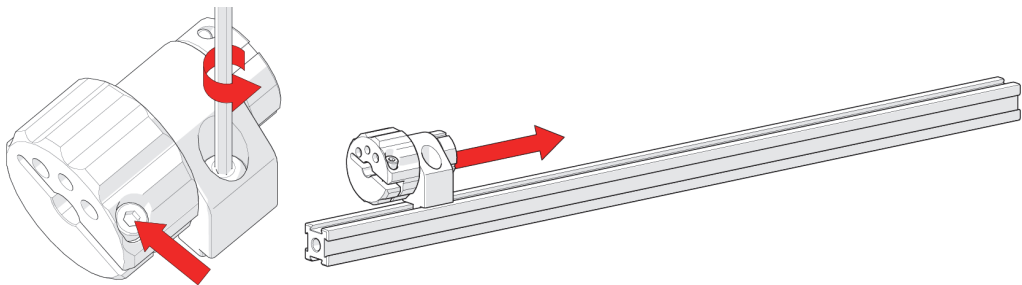

Figure 2-52 Slider PPS assembly
1. Ensure the lock screw and the hexagonal screw in the main knob are loose (see Figure 2-52 on page 72).
2. Slide the main knob to the middle of the frame bar (see Figure 2-52 on page 72).